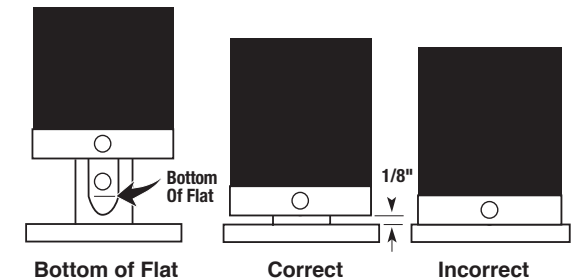

FIG. 11 (Coupler styles may vary from illustration.)
4. Remove setscrews on coupler. Coat setscrew threads with thread sealant. Re-install coupler to pump cartridge with set screw facing flat side of shaft. Tighten screw so coupler slides on shaft but stops at bottom of flat. Tighten until screw head is flush with coupler. Coupler should be approximately 1/8" off trap surface. (FIG. 11)